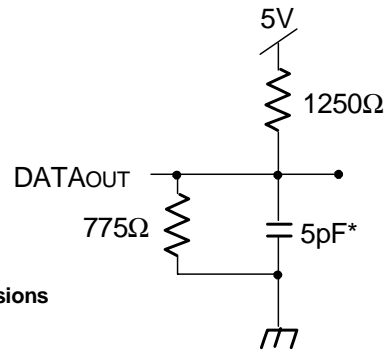

Figure 2. Output Test Load
1. Transition is measured 0mV from Low or High-impedance voltage Output Test Load (Figure 2).
- Transition is measured 0mV from Low or High-impedance voltage with Output Test Load (Figure 2). This parameter is guaranteed by device characterization but is not production tested.